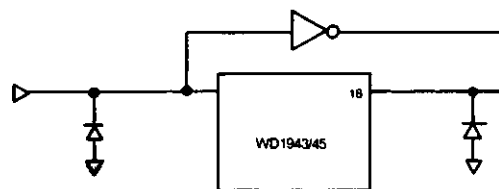

Figure 5. HIGH-SPEED DIODE TO CLAMP UNDERSHOOT
3. Add a high speed diode to clamp undershoot, as shown in Figure 5.